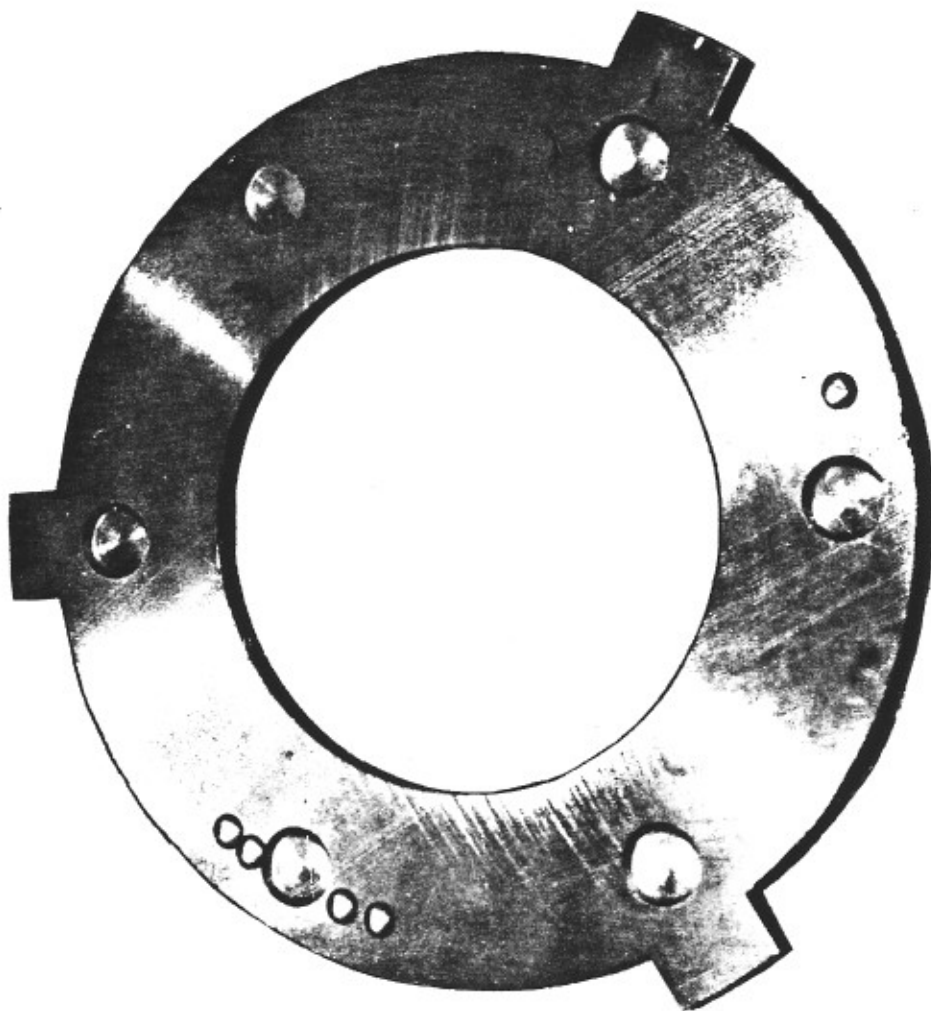

Figure 30
4. Mark safety plate shown in Figure 30 (with relation to housing and pressure plate). Lift out safety plate.